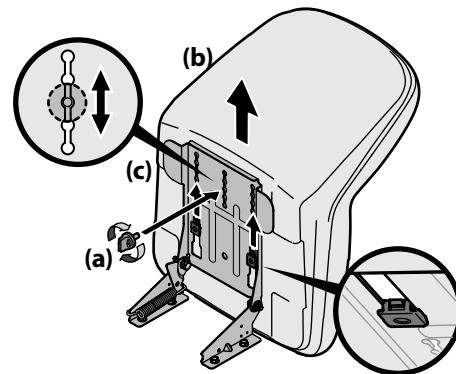

Figure 2-6
3. Slide the seat (b) rearward in the seat pivot bracket (c), lining up the center rear slot in the seat pivot bracket (c) with the remaining hole in the seat (b) base. See Figure 2-6.
NOTE: Be certain the two seat tabs engage the seat pivot bracket as shown in the bottom right inset of Figure 2-6.
4. Select the desired position for the seat (b), and secure with the adjustment knob (a) removed in Step 1. See Figure 2-6.
5. To adjust the position of the seat, remove the adjustment knob (a) on the bottom of the seat (b). Slide the seat (b) forward or backward as desired. Reinstall the adjustment knob (a). See Figure 2-6.